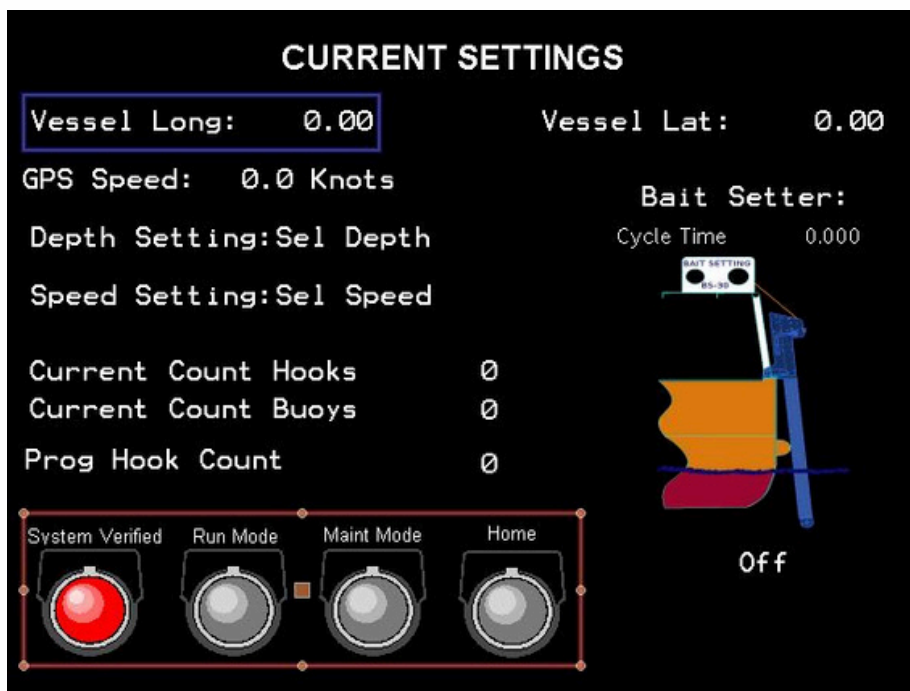

Figure 2.7. Current settings screen on the control box
- 2 The current settings screen displays the depth and speed set, as well as the GPS position and a graphical view of the Underwater Bait Setter when operating (Figure 2.7).